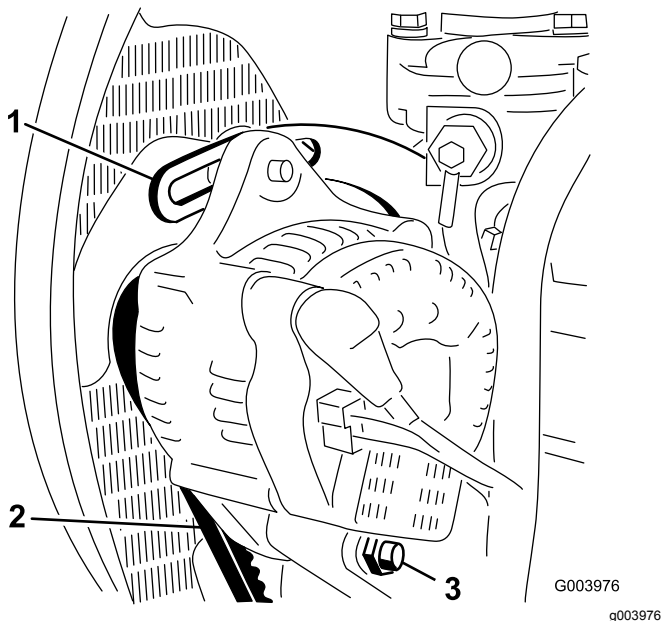

Figure 65
2. Check the tension of the alternator belt by pressing it (Figure 65) midway between the alternator and the crankshaft pulleys with 10 kg (22 lb) of force.
3. Loosen the bolt securing the brace to the engine (Figure 65), the bolt securing the alternator to the brace and the pivot bolt.